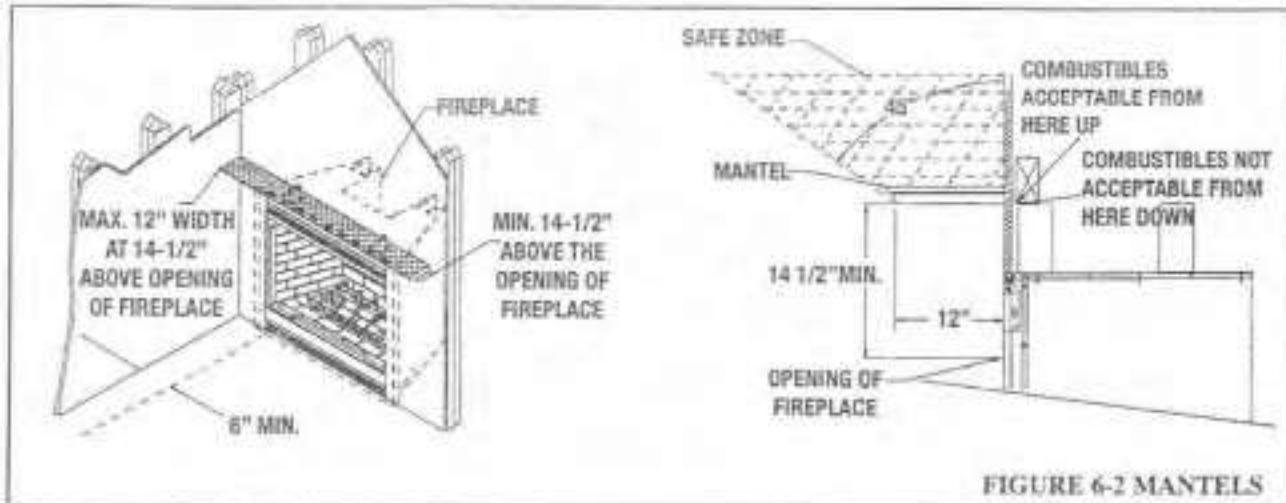

FIGURE 6-2 MANTELS
1. The mantels must be high at least 14 inches above the opening of the fireplace, and no more than 12 inches wide. Refer to Figure 6-2.
2. The opening of the fireplace must be at least 6 inches from a perpendicular wall. Refer to Figure 6-2.